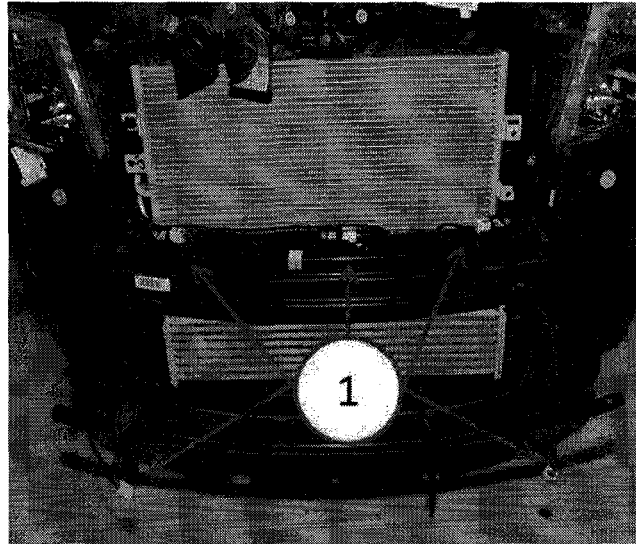

Fig. 3 New Pedestrian Protection Sensor Jumper Harness
5. Install new Pedestrian Protection Sensor jumper harness. Connect the three bumper beam mounted Pedestrian Protection sensors and the FEM connector. The remaining two 4-pin connectors are for the two added sensors. They are going to be connected during fascia re-installation(Fig. 3).